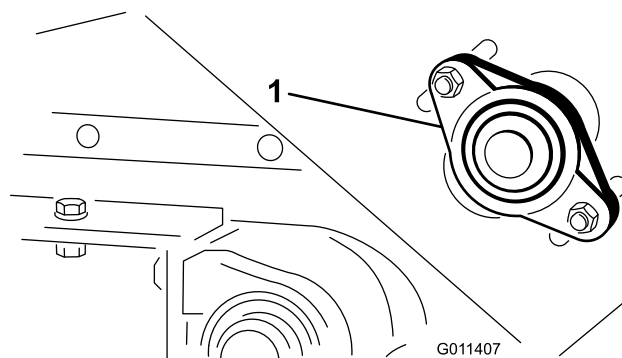

Figure 22
1. Loosen nuts securing bearing housing (Figure 22) to right side of machine.